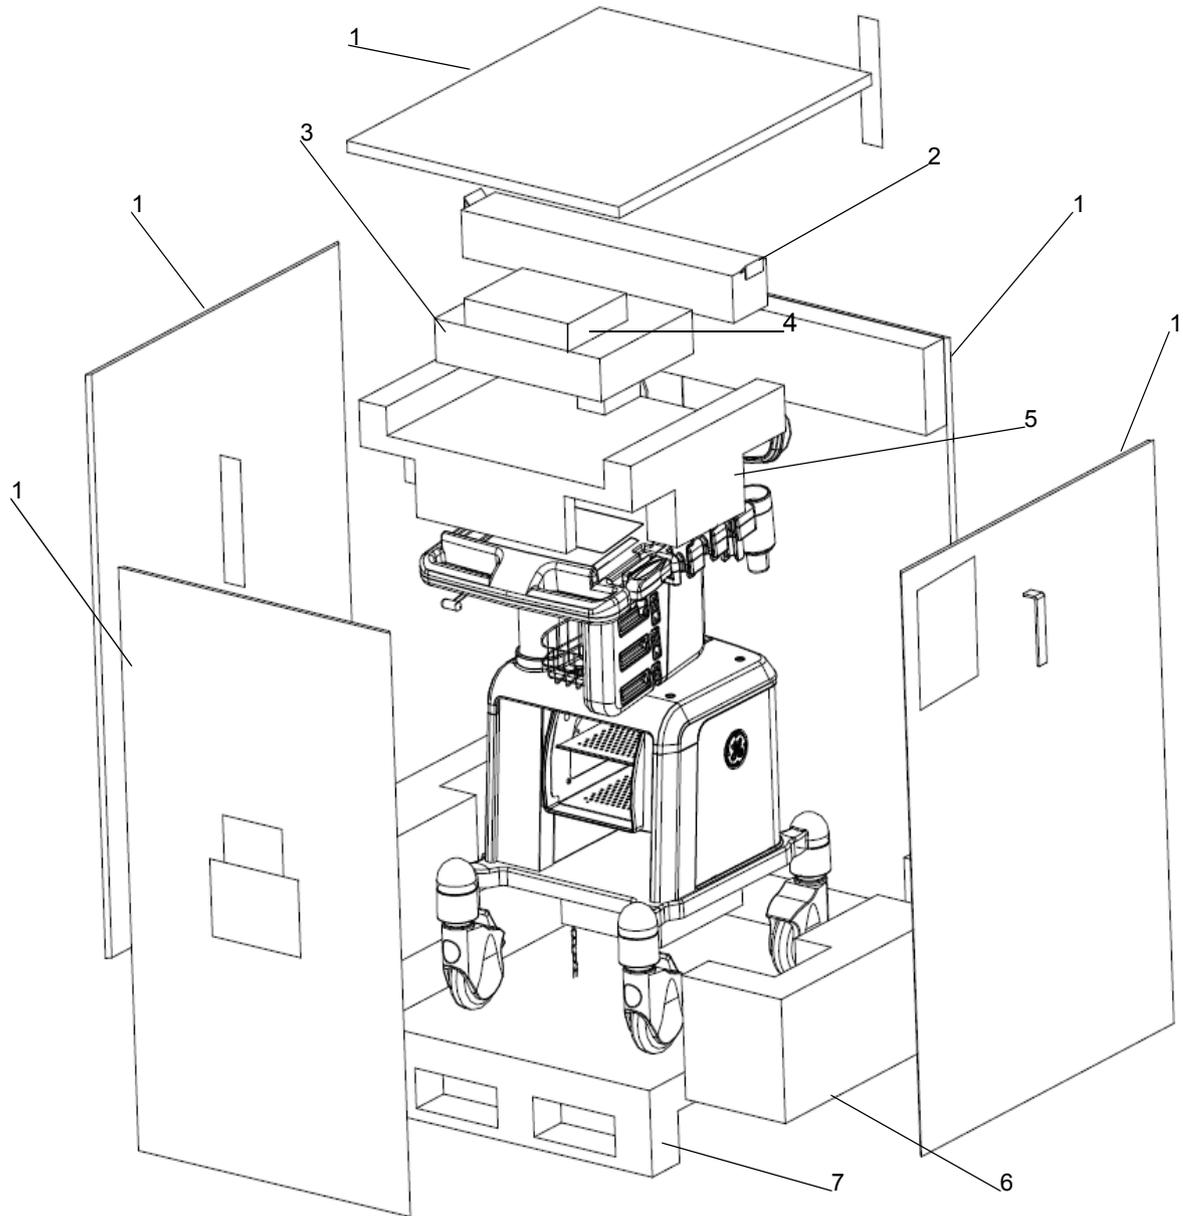

Figure 3-3 Remove foam
- 1.) Remove the forks clip from the docking cart, refer to Figure 3-3 on page 7 .
- 3.) Remove Manual box and Accessories Carton from the top foam, refer to Figure 3-3 on page 7
- 4.) Remove all the foam from docking cart, refer to Figure 3-3 on page 7 .